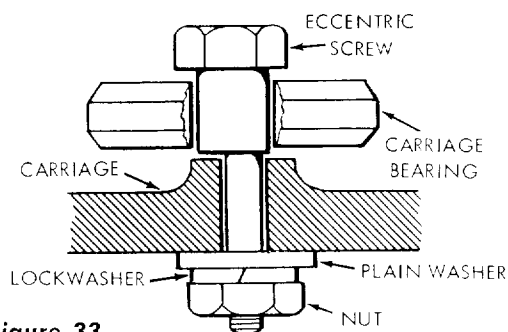

Figure 33
To test for looseness in carriage ball bearings (between bearings and tracks in radial arm), lock yoke clamp handle, grasp the motor and carriage assembly firmly and apply a firm rocking motion. If looseness exists, the two bearings on **left-hand side** of radial arm must be adjusted. The two bearings on right-hand side of arm are attached to the carriage with regular hex-head screws and are not adjustable. The two bearings on left-hand side of arm are attached to carriage with eccentric screws. (See figure 33.)
2. Loosen two nuts (figure 35) just enough to permit eccentrics to turn. (See figure 33.)